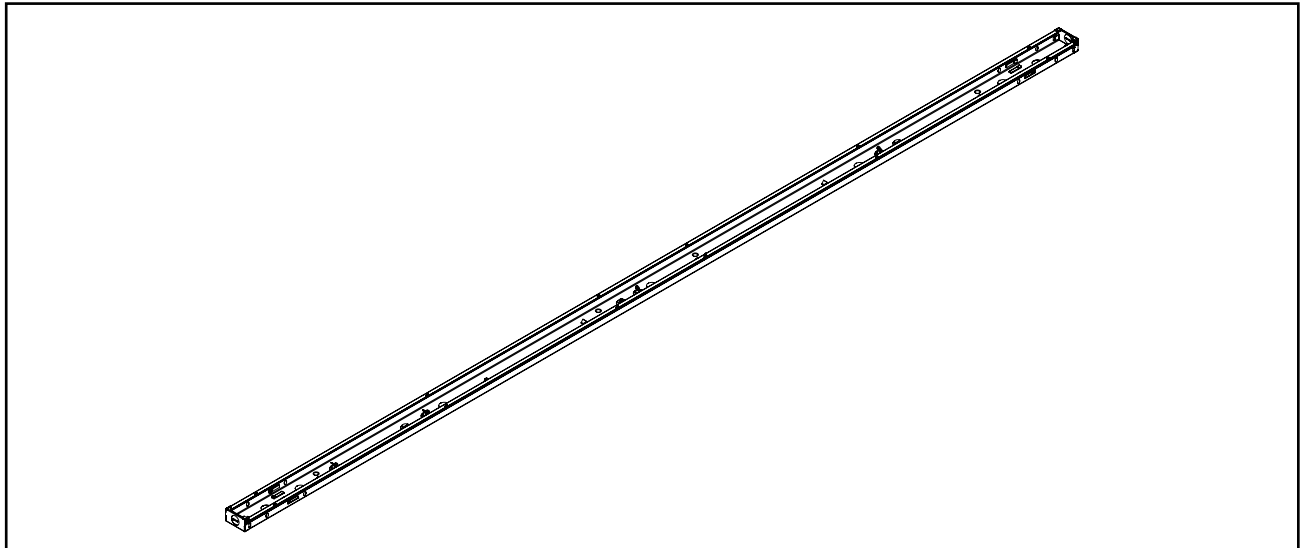

Figure 1
1. Remove lens and channel cover as shown in Figure 1